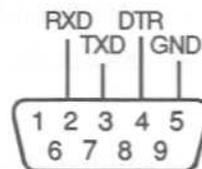

Figure 5-1. DP 100 RS-232 Connector Pins
The RS-232 port uses a male, 9-pin sub-miniature D connector (DE-9P) located on the rear panel. A diagram of the RS-232 connector pin assignments (see Figure 5-1) is printed on the rear panel to the right of the connector.
- (1) Using Figure 5-1 and the wiring information for your terminal, connect the DP 100 RS-232 port to the terminal's serial data port.
- (2) Set the terminal's serial port to 8 data bits, no parity, and 2 stop bits. If this setting cannot be made, communications with the DP 100 will not be possible.
- (3) Using the BAUD auxiliary function, set the DP 100 data rate to match the data rate of the terminal. See Section 3.5.5.
- (4) Using the commands as described in Section 5.3, verify communications with the DP 100.
- (5) If when trying to communicate with the DP 100 the REM annunciator flashes consistently and cannot be cleared, perform the following steps:
- (1) Using Figure 5-1 and the wiring information for your printer, connect the DP 100 RS-232 port to the printer's serial data port.
- (2) Set the printer's serial port to 8 data bits, no parity, and 2 stop bits. If this setting cannot be made, communications with the DP 100 will not be possible.
- (3) Using the BAUD auxiliary function, set the DP 100 data rate to match the data rate of the printer. See Section 3.5.5.
- (4) Using the PRINT auxiliary function, enter the parameter for the desired print interval. See Section 3.5.3.